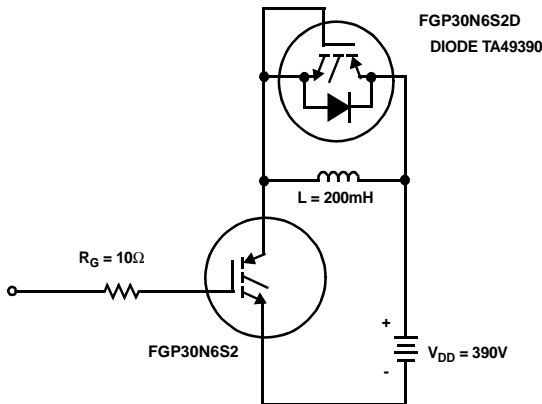

Figure 20. Inductive Switching Test Circuit
2. Values for two Turn-On loss conditions are shown for the convenience of the circuit designer.  $E_{ON1}$  is the turn-on loss of the IGBT only.  $E_{ON2}$  is the turn-on loss when a typical diode is used in the test circuit and the diode is at the same  $T_J$  as the IGBT. The diode type is specified in figure 20.